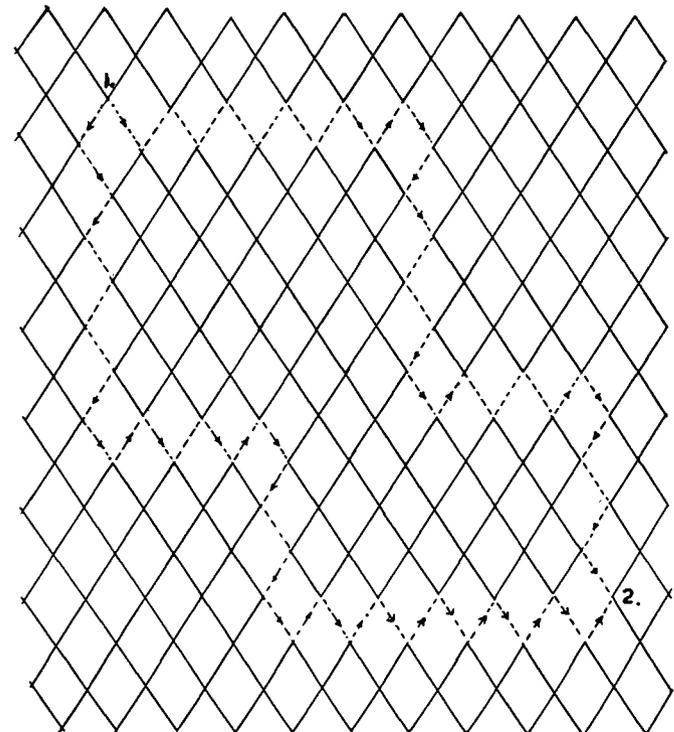

Fig. 42
Continue cutting the hole, cutting the patch and joining until the job is completed. The completed patch can be any shape so long as each corner turned during cutting out the damaged netting is a right angle (Fig. 42).
Figure 42 also shows a different method of starting and finishing. As there are two starting knots being tied at (1) in the top left hand corner and two finishing knots being tied at (2), bottom right, the hole and the patch can